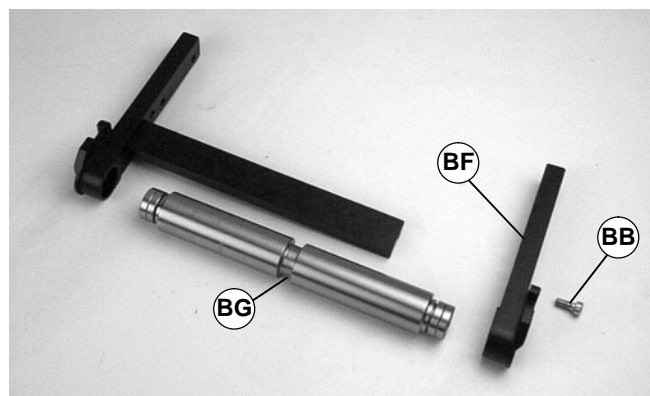

Figure 43
3. Remove screw (BB of Figure 43).